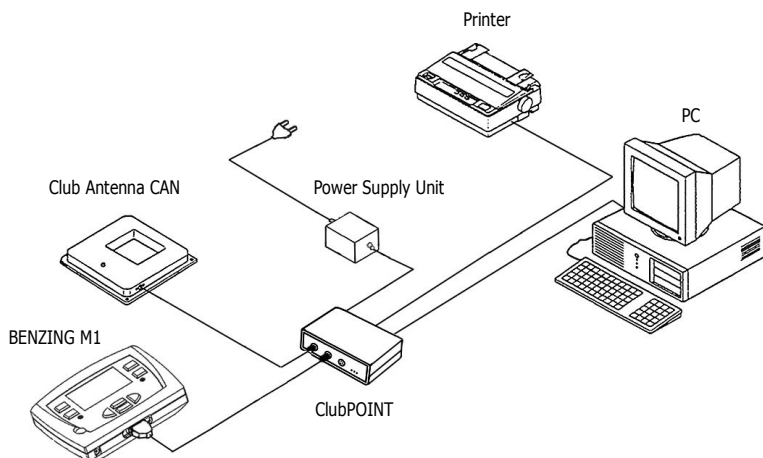
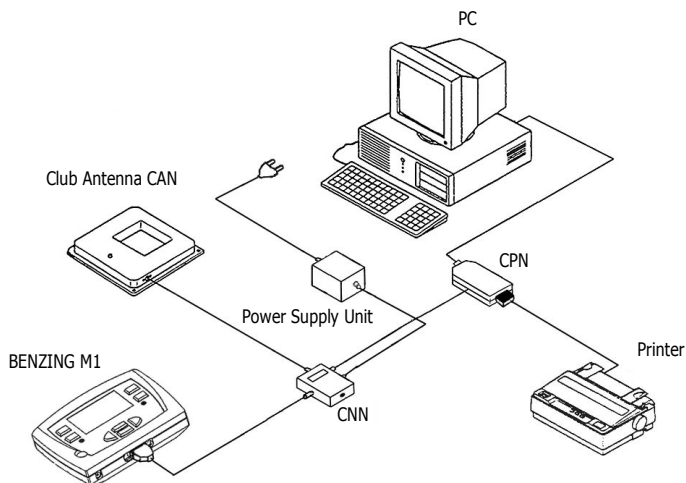

Figure 3.1 - Club System using the BENZING M1 and the Connection Device clubPOINT
Figure 3.2 - Fancier System BENZING M1 and Network Node CNN (previous system)
The way the system is installed at the club is displayed in figure 3.1, which shows how to use the clubPOINT. The clubPOINT has substituted the CNN (network node) and CPN (printer node). Installation by using these older devices is possible as well and is explained in figure 3.2. No system set-up is possible in combination with the club Cobox!
- At the club the power supply unit is to be always connected to the corresponding plug of the clubPOINT respectively to the network node CNN (see figure 3.1 or 3.2). The socket ⑪ at the BENZING M1 may not be used in this case as thus, power supply of the Club Antenna CAN is impossible.
- Before plugging in the power supply unit, check if the installation corresponds to the figure 3.1 or 3.2. Make sure that before connecting the BENZING M1 to the mains humidity has not found its way into the case of the BENZING M1 and that the device is being operated according to the conditions of use mentioned in 3.1.